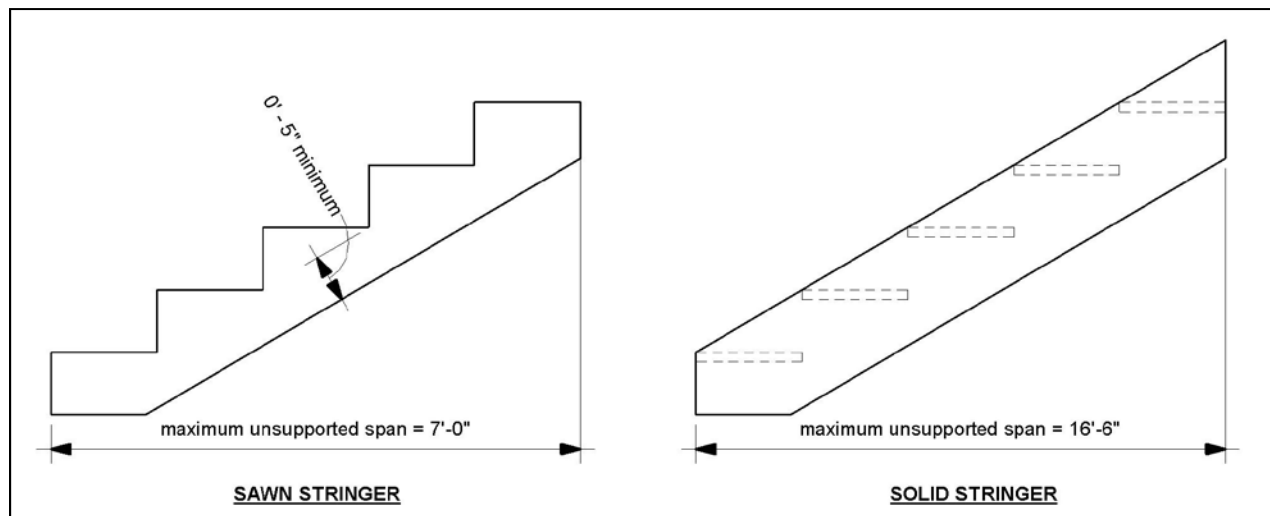

FIGURE 33: STAIR STRINGER REQUIREMENTS
- Measured horizontally, the maximum horizontal stringer spans shall not exceed the lengths shown in FIGURE 33.